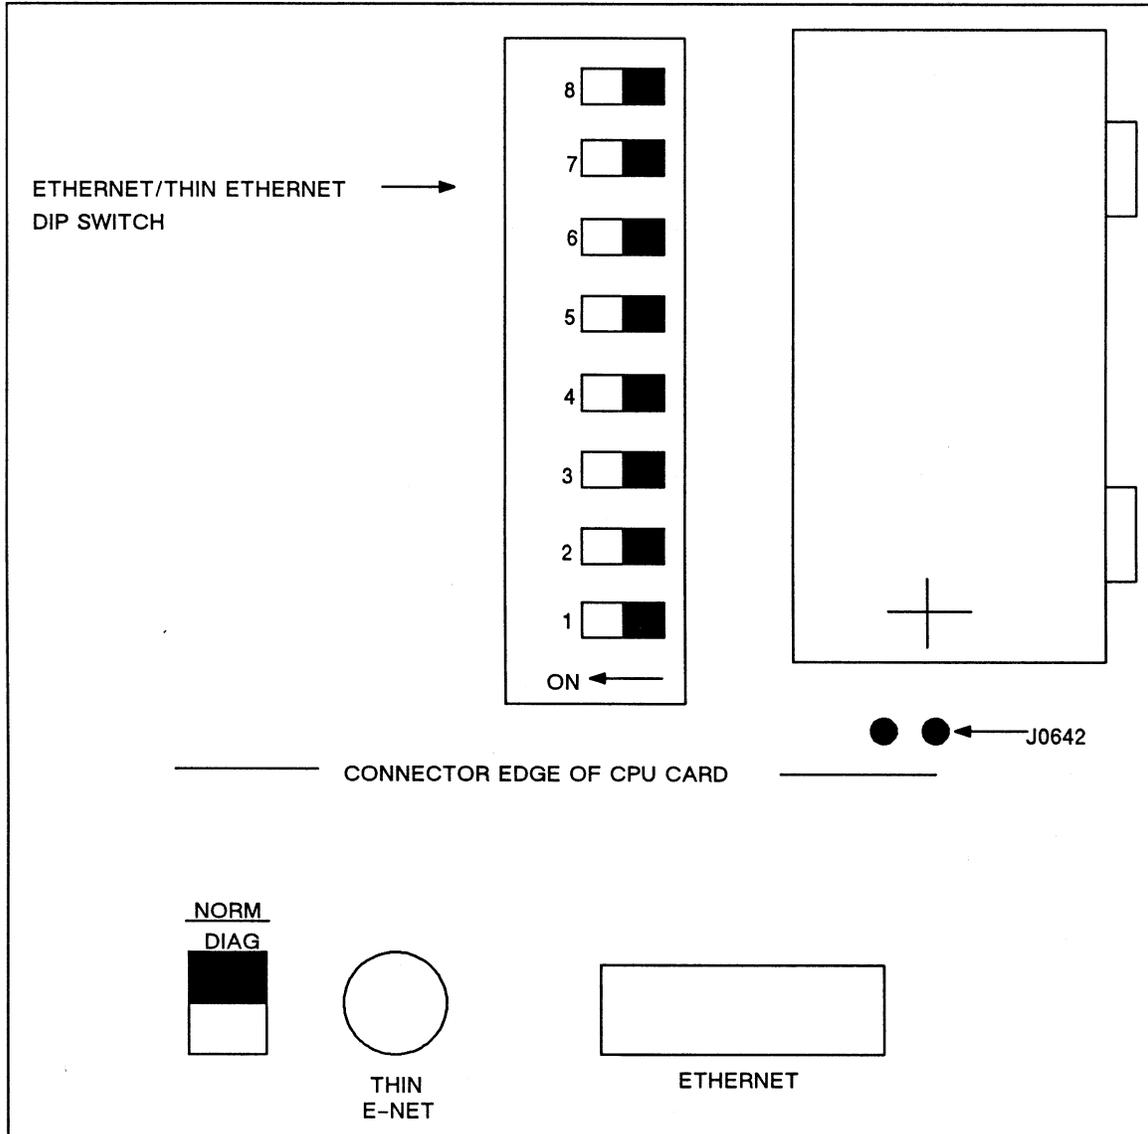

Figure 5-10. Standard Ethernet Dip Switch Setting for Model 30 CADDStation
5. Gently slide out the PCB until you can see the dip switch located just behind the BNC and Ethernet connectors, as shown in Figure 5-10.
6. Be sure that the eight-position dip switch is set for standard Ethernet use, as shown in Figure 5-10. All eight positions are in the OFF position. If you need to change the dip switch setting, use a pointed instrument to slide individual switches into position.
7. Locate jumper J0642 just to the right of the Ethernet dip switch (see Figure 5-10). Be sure that J0642 is properly jumpered for the Ethernet transceiver you are using. If you are using a level 1 transceiver (see below for transceiver types), the jumper must be IN. If you are using a level 2 transceiver, the jumper must be OUT. In addition, if you are installing a Model 1.0 diskless CADDStation, be sure that the jumper at location J101 on the Sun/Intel Ethernet board is out if you wish to select NT100 transceivers.
Figure 5-10 shows the proper dip switch setting for the standard Ethernet.